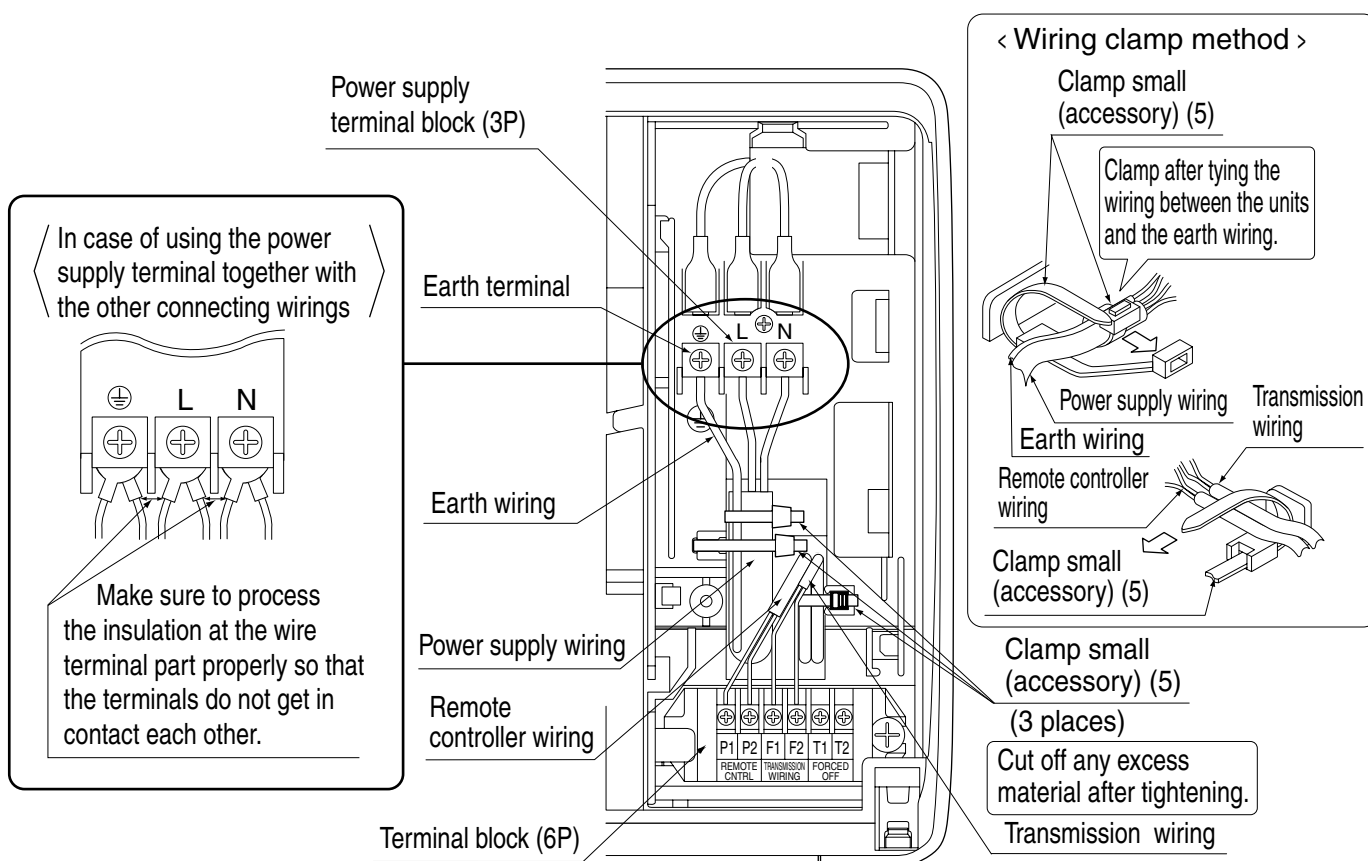

Fig. 23
(Refer to Fig. 23)
When doing this, tie the remote controller wiring and the transmission wiring using the included clamp (small) (5) and then firmly secure using the included clamp (small) (5) according to the figure. **(Refer to Fig. 23)**